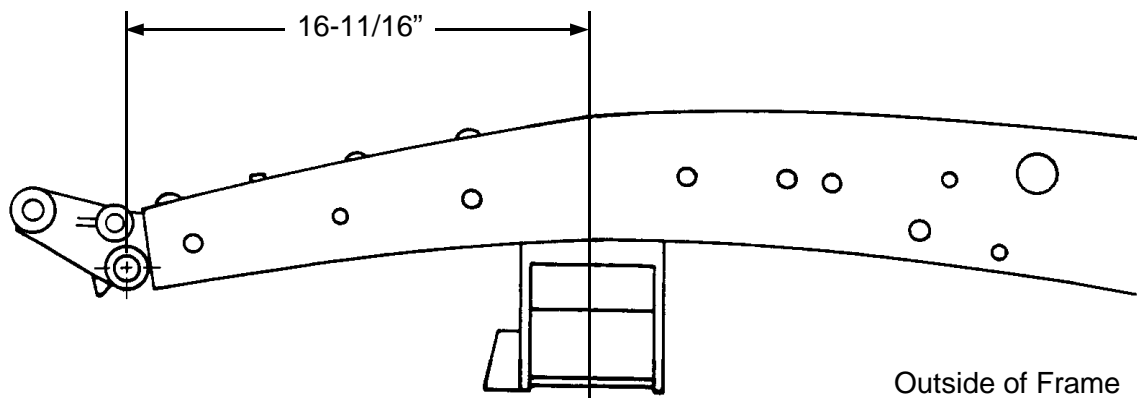

Figure 3
6. Measure straight back 16-11/16" from the center of the front spring shackle hole in the frame and make a vertical line. See Figure 3. This will be the center of the crossmember and the spindle centerline. Slip the crossmember up into the frame and center it on the centerline mark. If it does not fit up into the frame, grind the sides of the crossmember uprights so you can get it into this position. Make sure that the crossmember is seated fully on the underside of the frame. Tack weld in place.